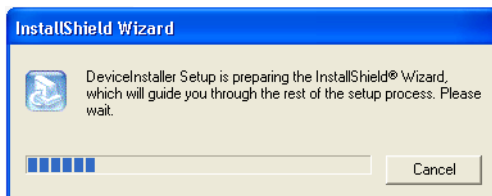

Figure 7: InstallShield Wizard Setup
4. The InstallShield program begins by preparing itself for the DeviceInstaller installation process (see Figure 7).